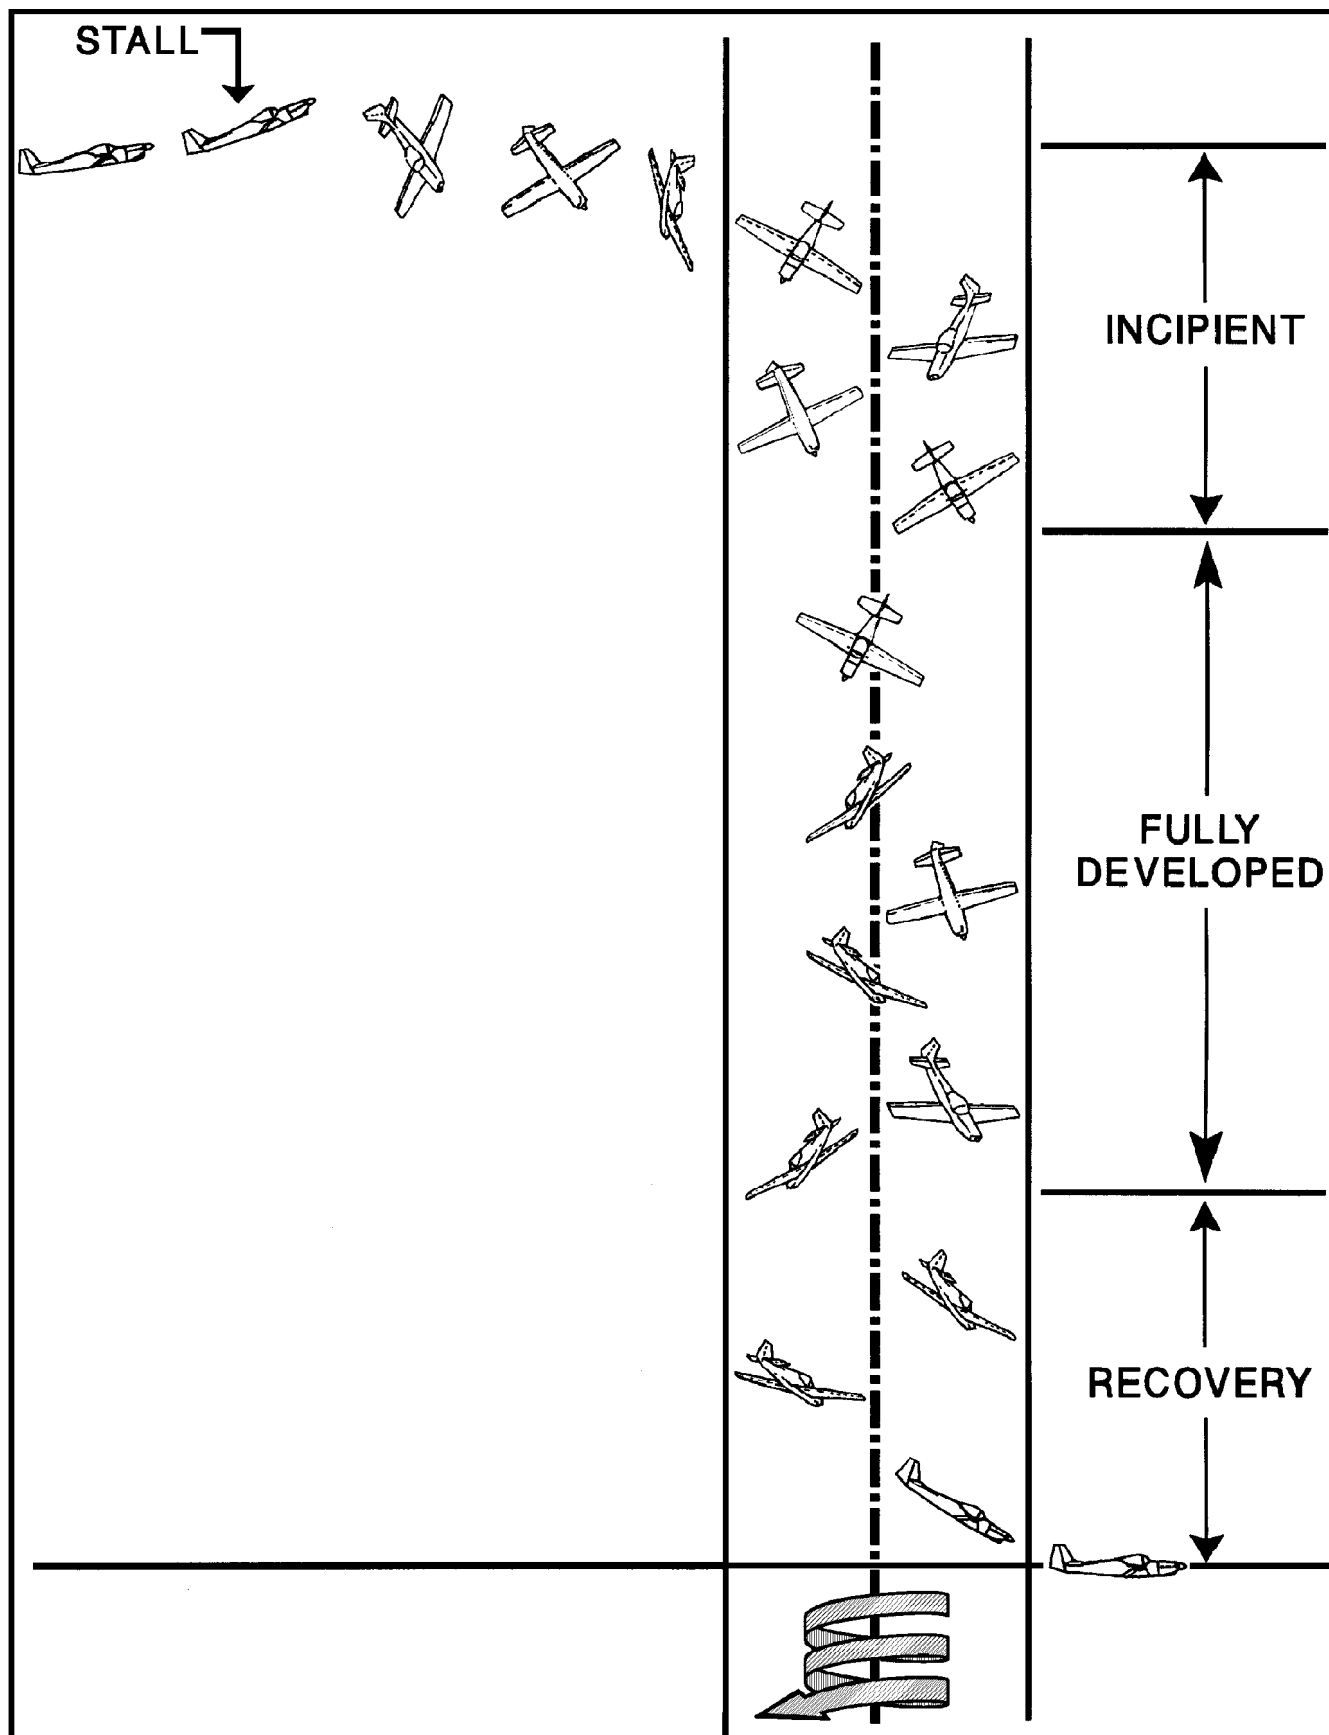

Figure 5.11. Three Stages of a Spin.
5.25.4. From a developed spin, the aircraft progresses into a stabilized spin if you hold the controls fully deflected. There is not a definite number of turns, pitch attitude, or airspeed to describe a stabilized spin. A stabilized spin is normally characterized by a steady airspeed, constant rate of rotation, and constant pitch attitude (approximately 40° to 45° nose low). You will lose approximately 300 feet per turn in a stabilized spin, and the duration of one turn is approximately 2 seconds (figure 5.11).